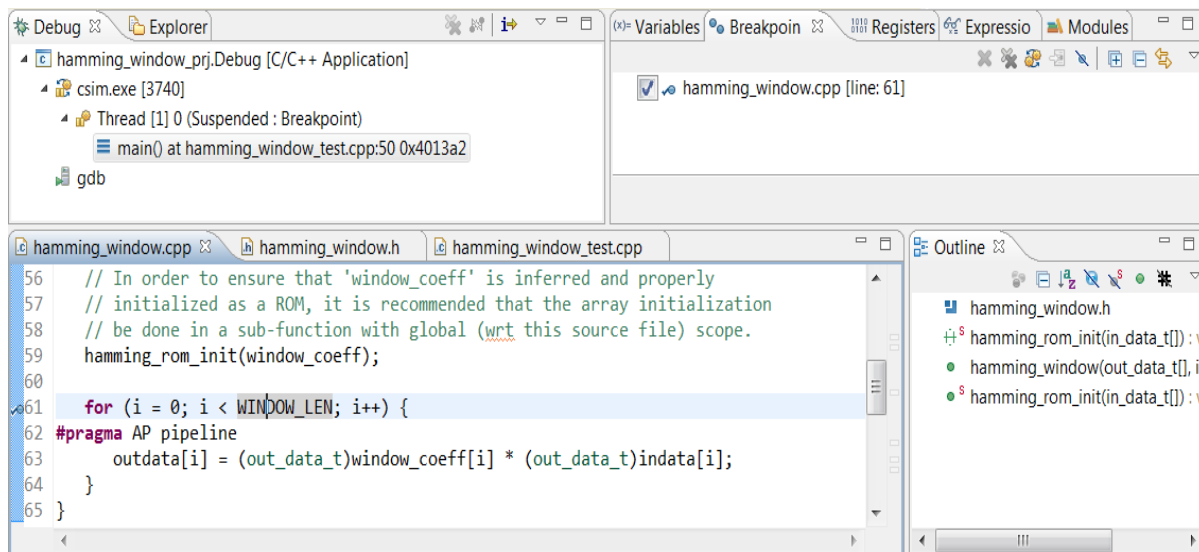

Figure 3-19: Debug Environment for C Validation Lab 3
5. Set a breakpoint at line 61 in the `hamming_window.cpp` file as shown in Figure 3-19.